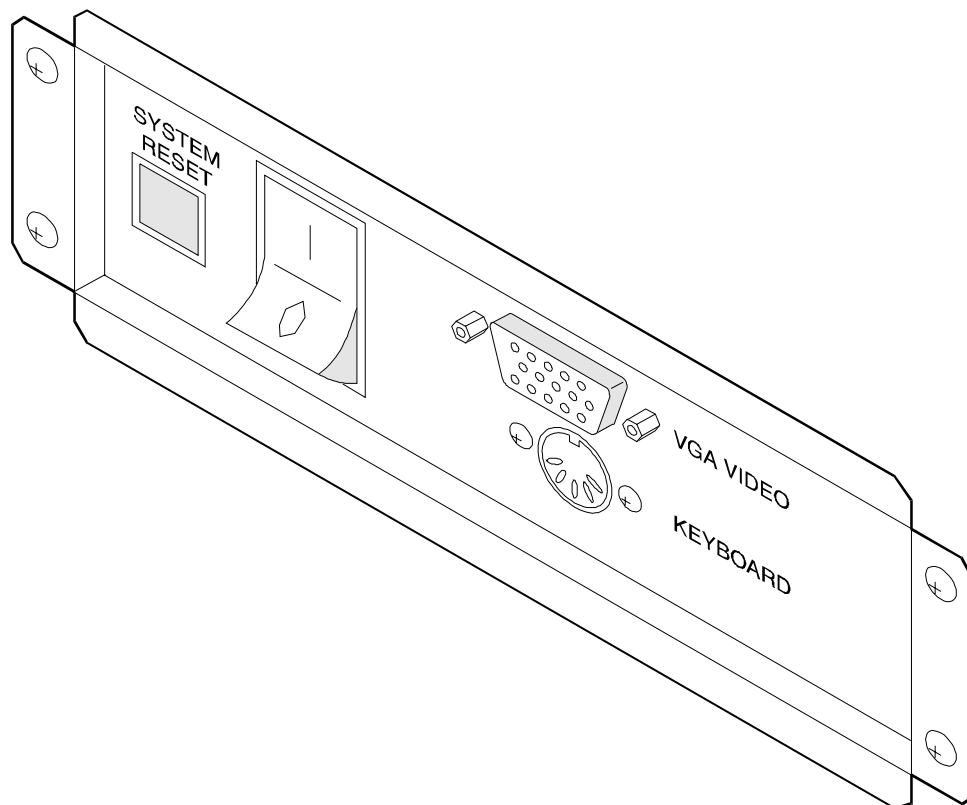

Figure 4-6. MAP/100 Power Switch
4. Turn off the power switch on the lower front of the MAP/100 peripheral bay (Figure 4-6).